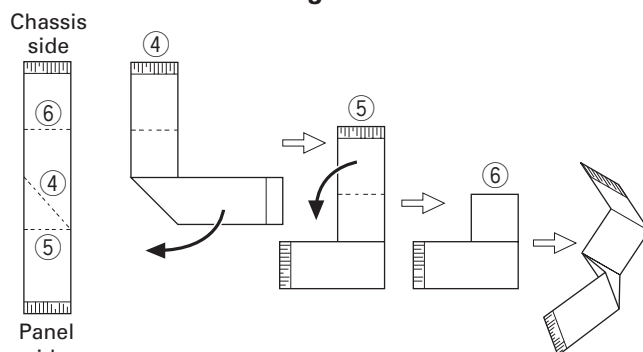

Fig. 3-2
2. Remove the flat cable from the connector (CN902) of the display unit of the panel. (③)
3. Fold the black line of the flat cable (in three parts) as shown in Figure 3-2. (④, ⑤, ⑥)